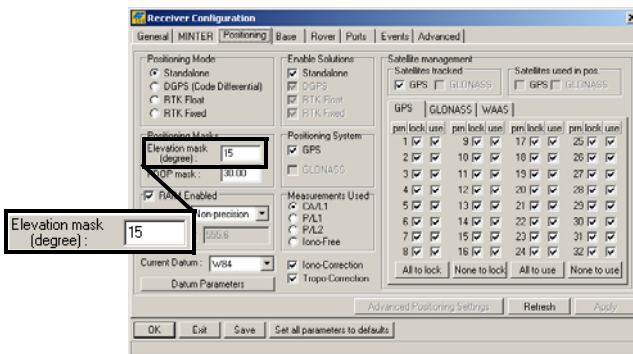

Figure 3-9. Configure Receiver Positioning – Elevation Mask
- Click the *Positioning* tab, and set the *Elevation mask* to 15 (Figure 3-9), then click **Apply**.